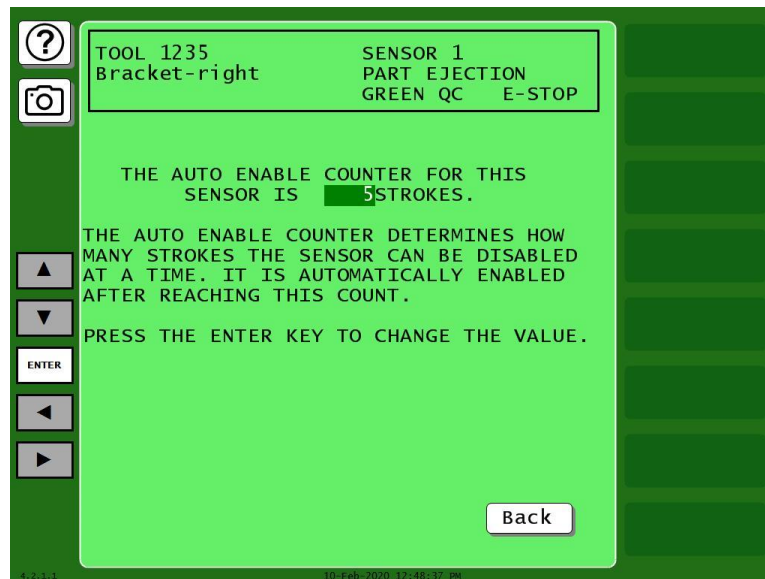

Figure 5-22. Die Protection Sensor Menu with Auto Enable by Tool Counter
1. Select DIE PROTECTION on the Tool Program Menu. The Die Protection Sensor Menu displays, Figure 5-22, with the AUTO ENABLE COUNTER at the bottom of the screen.